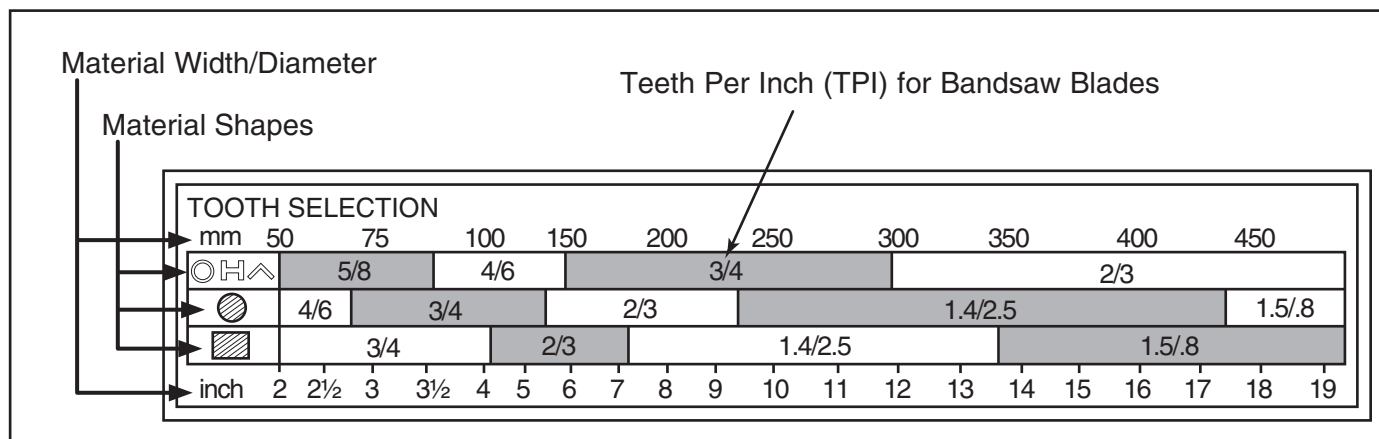

Figure 24. General guidelines for blade selection and speed chart.
2. Refer to "Material Width/Diameter" row of blade selection chart in **Figure 24**, and read across to find workpiece thickness you need to cut.